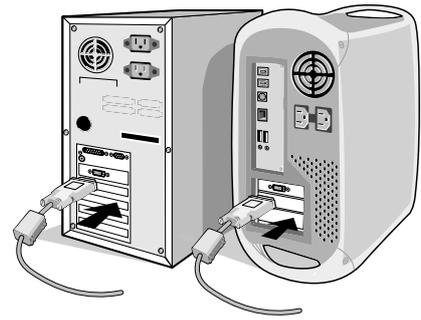

Figure A.1
2. Connect the DVI signal cable to the connector of the display card in your system (**Figure A.1**). Tighten all screws.